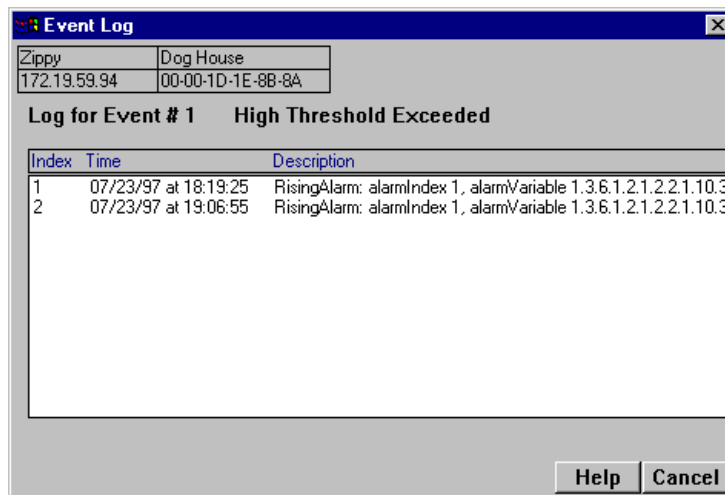

Figure 3-7. The Event Log Window
1. Highlight the event for which you wish to view the log, then click on **Event Log** at the bottom of the Advanced Alarm/Event List window; the Event Log window, Figure 3-7, will appear.